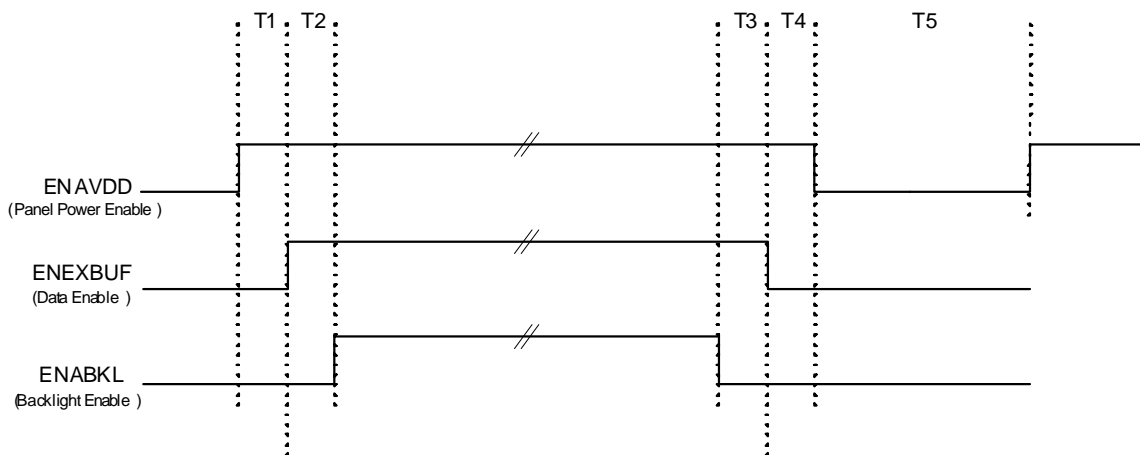

Figure 1: LVDS T1 - T5 Power Sequencing
The CH7308 conforms to the SPWG LVDS panel power sequencing requirements. T1 - T5 in Figure 1 are the SPWG LVDS panel power sequence timing parameters. These parameters can be customized through use of Intel's VBT (VBIOS Blockdata Table) utility to comply with many of the LVDS panels on the market. This Technical Bulletin describes how to verify the T1 - T5 timings.
6. Using Figure 1 as a reference, measure T1 - T5 using the reference cursors of the oscilloscope